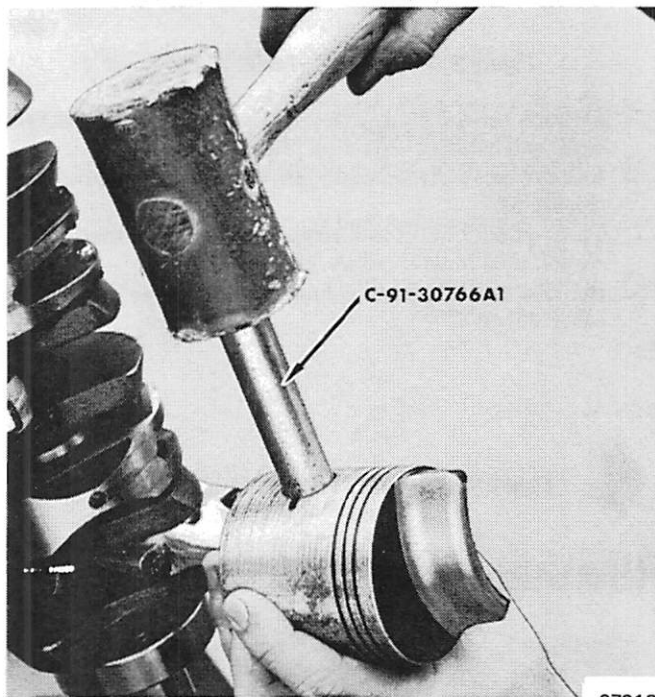

Figure 3. Removing Piston Pin
4. Remove piston pins with Piston Pin Tool (C-91-30766A1). (Figure 3) Place piston pin bearing retainer over end of piston pin tool and slide bearing retainer tool into center of piston pin bearings. Remove piston pin tool and remove piston. Bearings will remain in place until bearing retainer tool is removed.